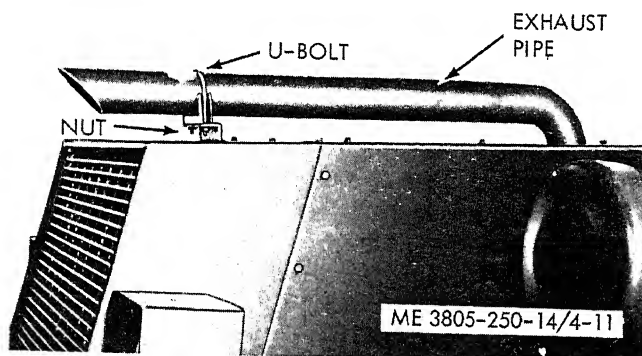

Figure 4-11. Exhaust pipe, removal and installation.
(1) Inspect the exhaust pipe for an accumulation of dirt or any foreign matter in the passage.
(2) Check for signs of corrosion and for holes in the pipe.
(3) Ensure that the pipe is held securely in position.
*c. Removal.* (fig. 4-11).
(1) Remove two nuts and lockwashers from the threaded ends of the U-bolt.
(2) Loosen the clamp securing the exhaust pipe to the exhaust elbow.
(3) Lift the exhaust pipe up from the loader, carefully working the exhaust elbow end through the hole on top the hood.